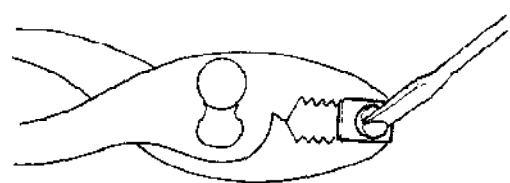

Figure 6
6. When installing new conveyor belt, check for proper link orientation. (Figure 6)